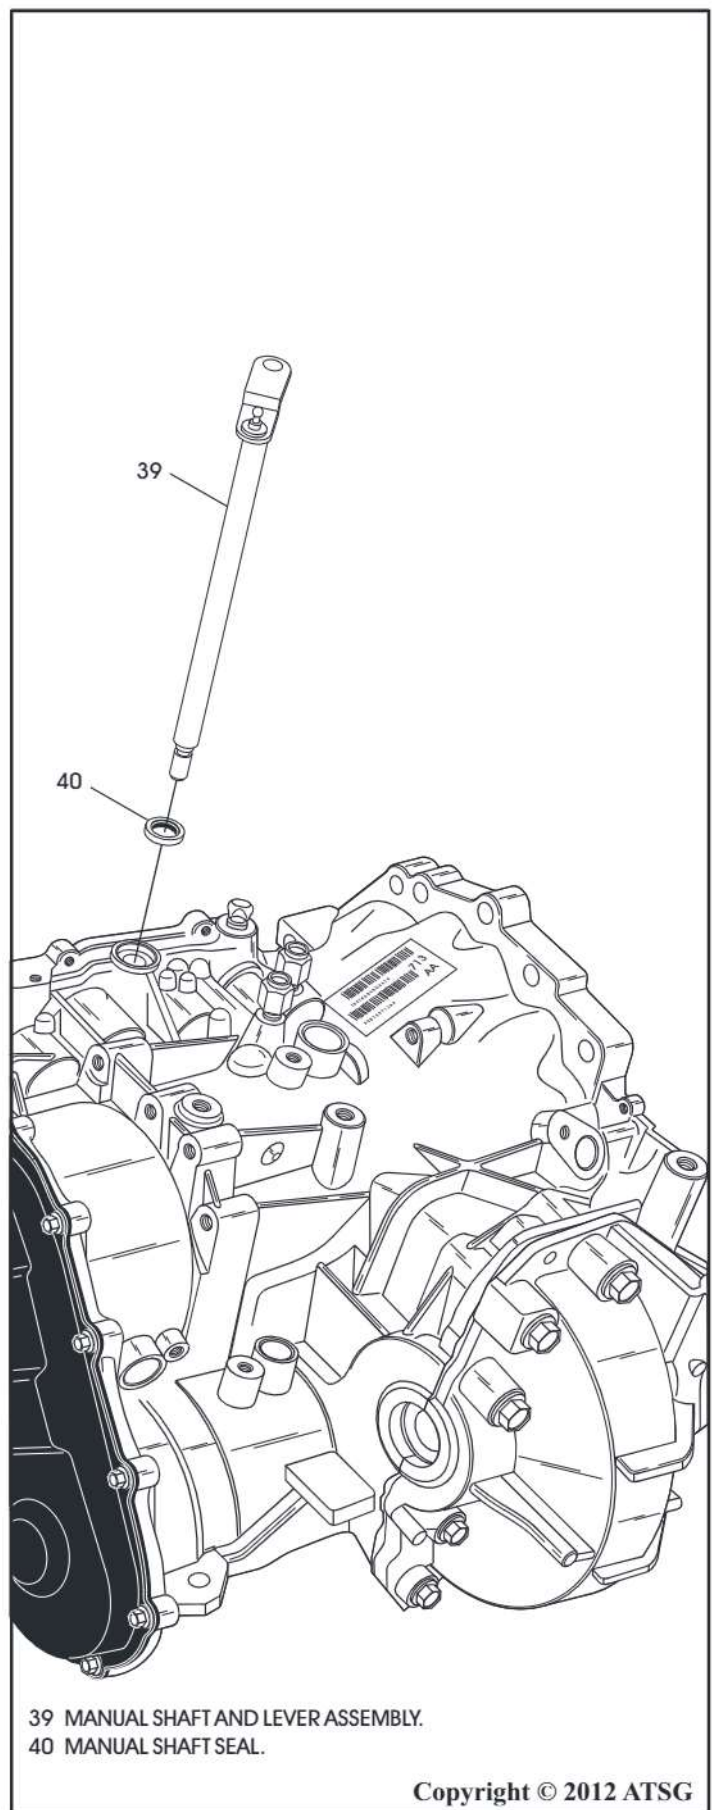

Figure 57
31. Remove the manual shaft and lever assembly, as shown in Figure 57.
32. Remove and discard the manual shaft seal, as shown in Figure 57.